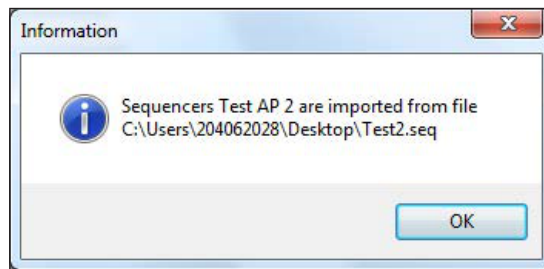

Figure 105 - Sequencer Import File Confirmation
3. Navigate to the target directory, select a file, click **Open** and Figure 105 appears.